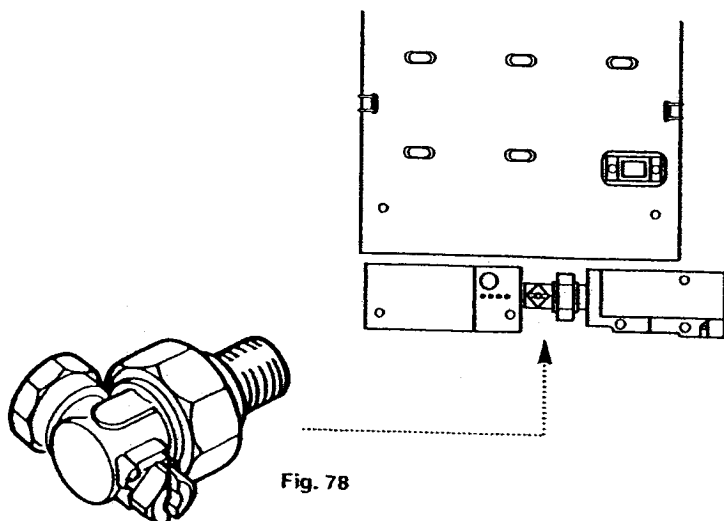

Fig. 78
1. Connection to the gas supply is RC $\frac{1}{2}$  (1/2 in BSPT internal) located at the rear of the gas cock (Fig. 78).